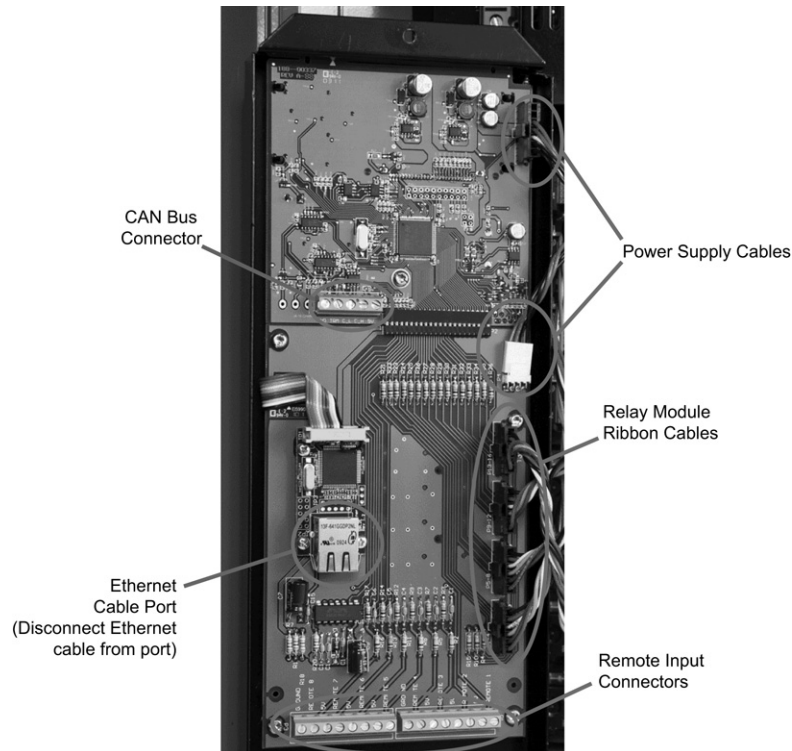

Figure 2. Removing wires and connectors.
5. On the inside of the door assembly, disconnect the applicable cable and connectors from the controller board listed below. See Figure 2
10. Open the door assembly and connect the cables and connectors previously removed to the required locations. Refer to Figure 2.